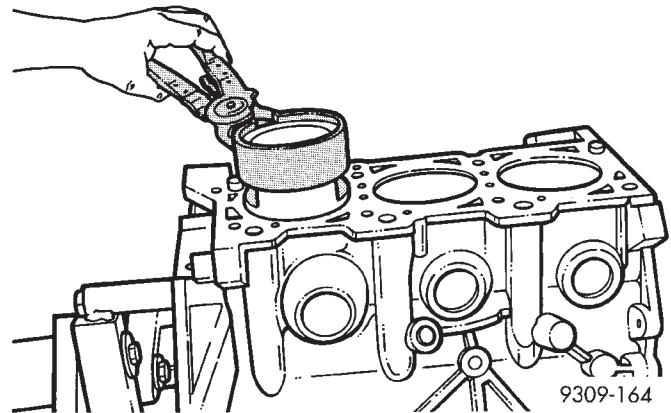

Fig. 66 Piston—Installation
(3) Immerse the piston head and rings in clean engine oil, slide the ring compressor, over the piston and tighten with the special wrench. **Be sure position of rings does not change during this operation (Fig. 66).**